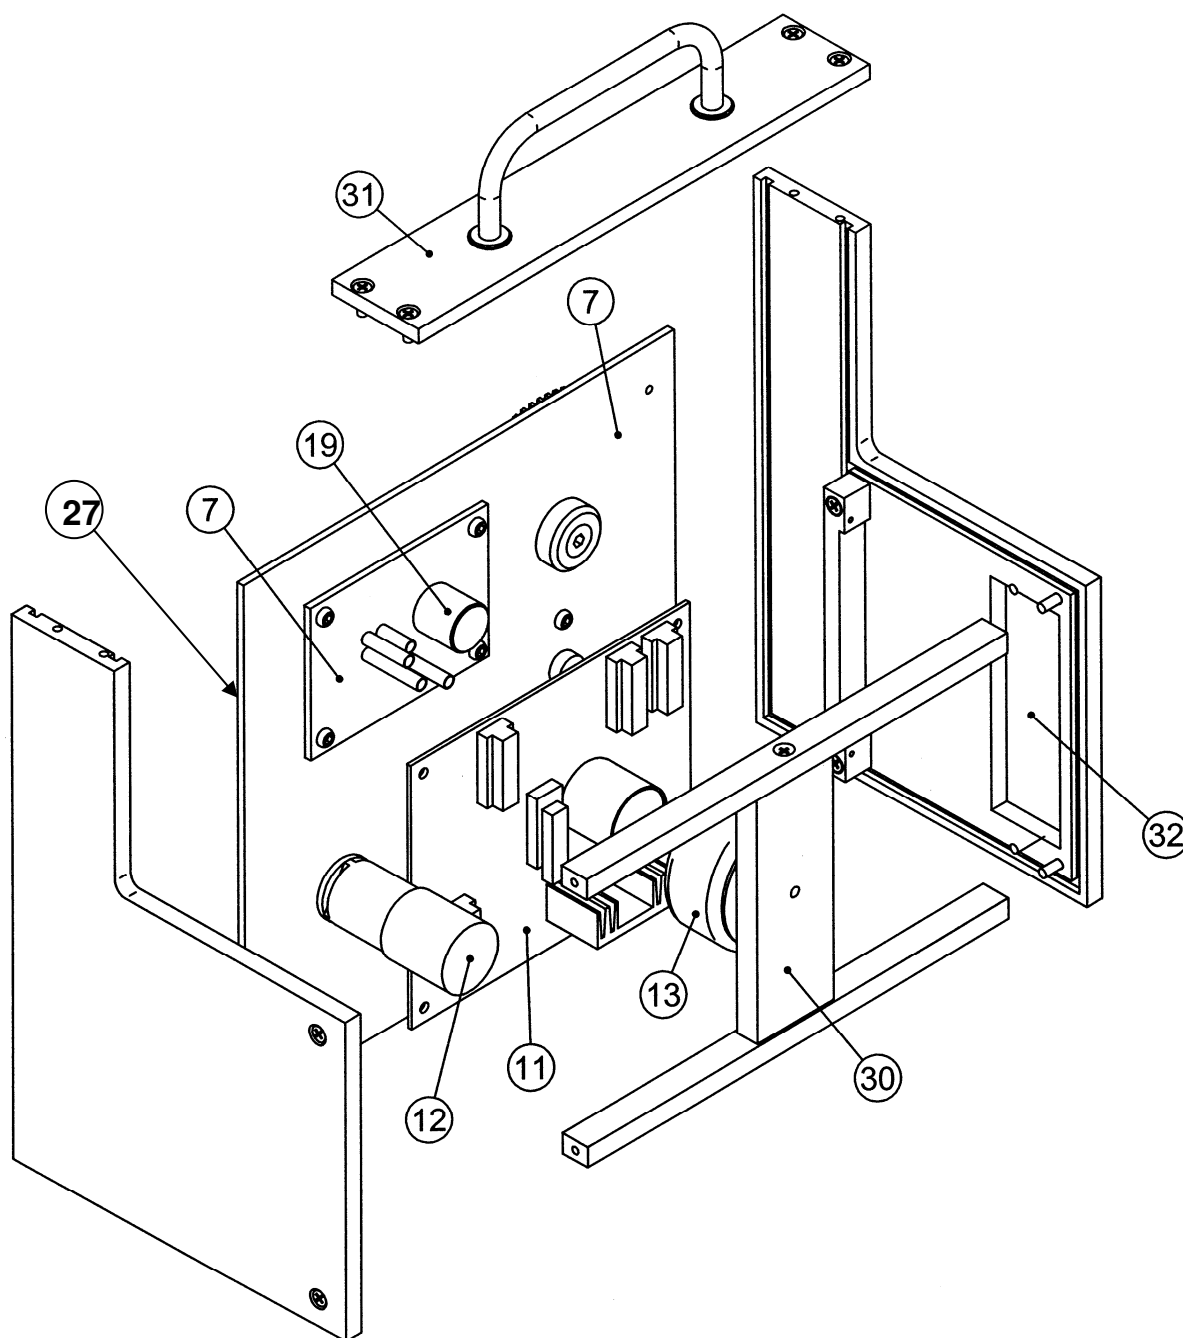

Figure 7 “Exploded View”
- a) Remove the plastic cap (**19**), see Figure 7 “Exploded View”, which protects the spring washer set and thrust ball bearing assembly. Exert a combination of a gentle pull and rotation as when uncorking a small bottle.